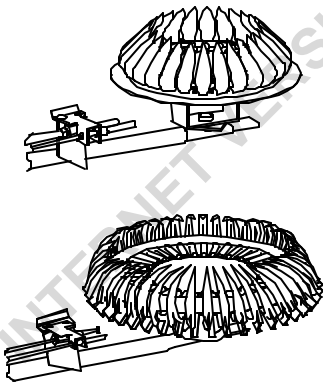

Figure 3
**Steel Burner:** These models are equipped with self adjusting air mixture and do not have an adjustable air shutter (See Figure 3). At periodic intervals, a visual check of the main burner and pilot flames should be made to determine if they are burning properly. The main burner flame should light smoothly from the pilot.